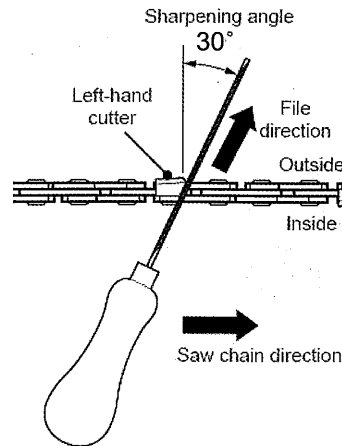

Fig. 48
5. File at an angle perpendicular to the bar, and at an angle of 30° to the direction of travel (Fig. 48).